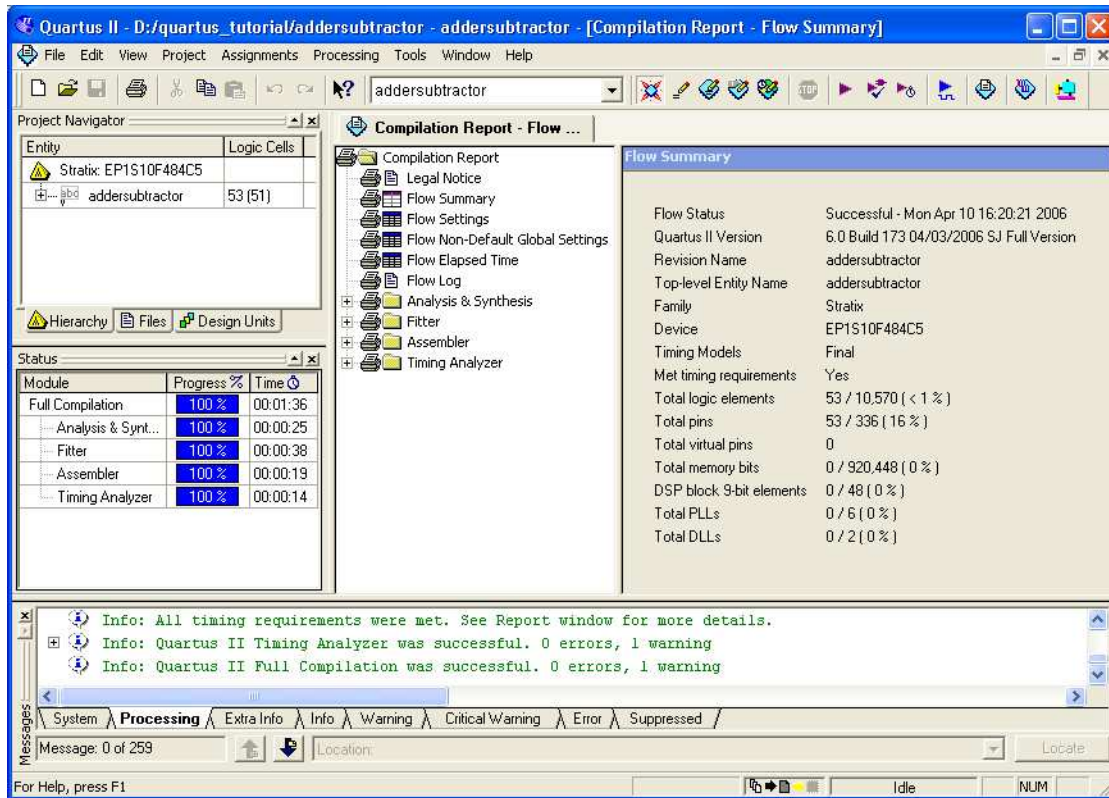

Figure 35: The main Quartus II display.
The Quartus II display contains several utility windows, which can be positioned in various places on the screen, changed in size, or closed. In Figure 18, which is reproduced in Figure 35, there are four windows.
1. To see the usefulness of this window, open the previously compiled project *quartus_tutorial\addersubtractor* to get to the window that corresponds to Figure 35.
The Status window is located below the Project Navigator window in Figure 35. As you have already observed, this window displays the compilation progress as a project is being compiled.
At the bottom of Figure 35 there is the Message window, which displays user messages produced during the compilation process.